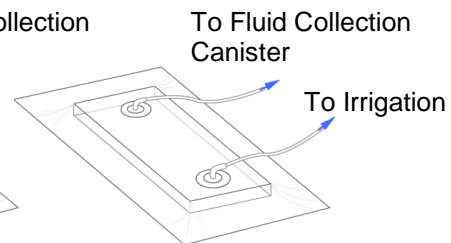

Fig. 3
13. Repeat Step 12 for the second SpeedConnect™ flange (see Fig. 3).